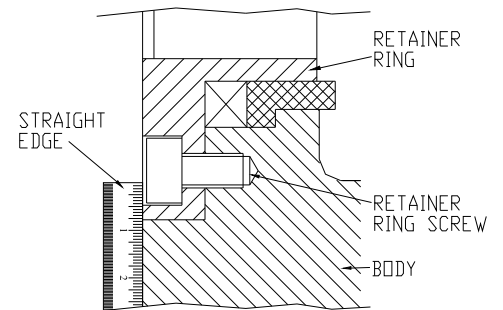

Figure 8
- H. Using a straight edge, tighten the bolts till the retainer rings are flush with the valve body as shown in figure 8. Do not over tighten.